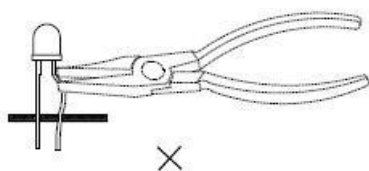

Fig. 7
4. During lead forming, use tools or jigs to hold the leads securely so that the bending force will not be transmitted to the LED lens and its internal structures. Do not perform lead forming once the component has been mounted onto the PCB (Fig. 7).